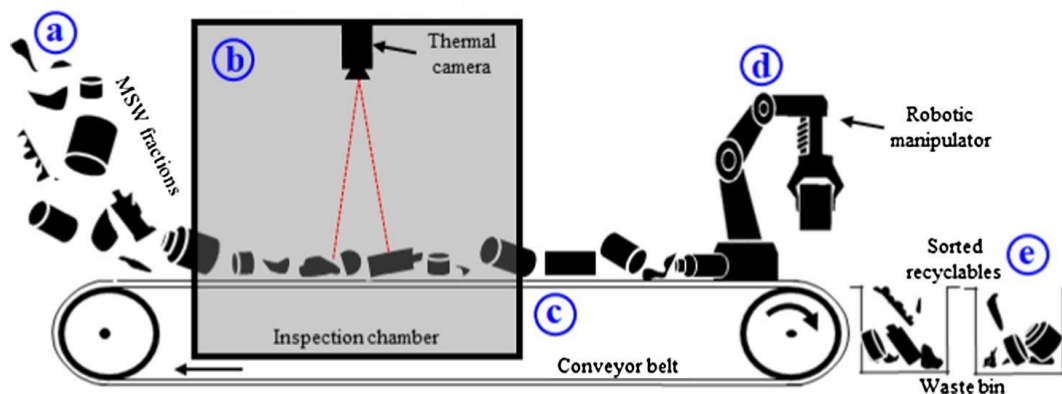

Figure 1. The illustration of an automatic waste classification system (picture from: <https://www.sciencedirect.com/science/article/pii/S0956053X17306876>)
8. (Q, 4pts) By using the thermal capacitance and thermal resistance differential equations, write the differential equation governing the evolution of the temperature $T(t)$ in the insulated chamber given in Fig. 1. Define the heater’s heat generation rate $q(t)$ as the first input, ambient temperature $T_o(t)$ as the second input and the chamber temperature $T(t)$ as the output.